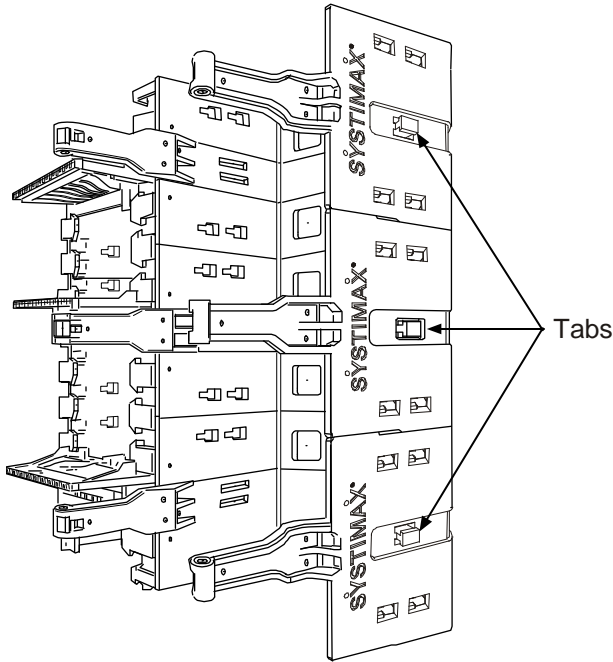
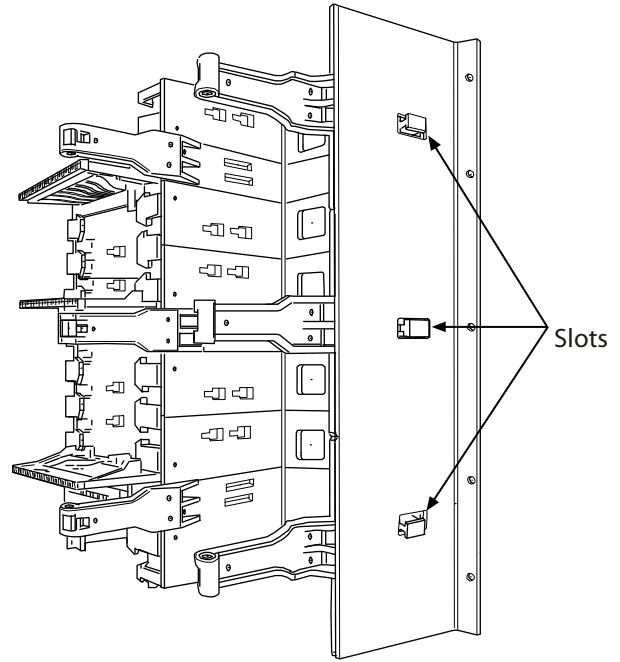

Figure 2. Tabs on Vertical Troughs
Figure 3. Mounted Side Panel
2. Locate tabs on outside of 12U vertical trough section (Figure 2). Position side panel as shown and hang it on side of vertical troughs so that tabs extend through slots in side panel (Figure 3).